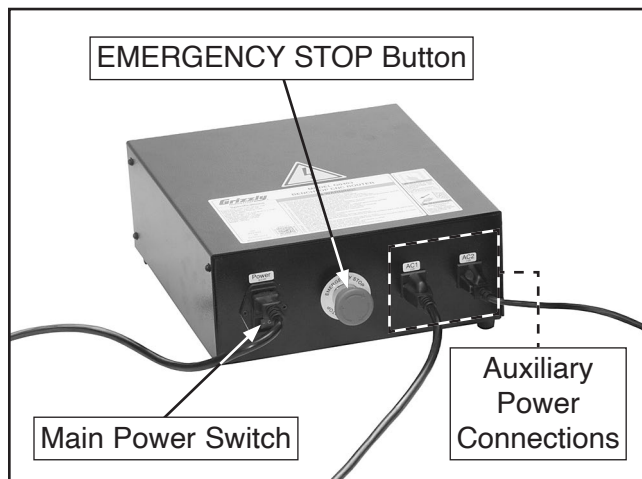

Figure 8. Location of control box auxiliary power connections.
9. Turn main power switch on control box to OFF position, then press EMERGENCY STOP button (see **Figure 8**).
10. Connect power cords from VFD and cooling pump to available auxiliary power connections on control box (see **Figure 8**).